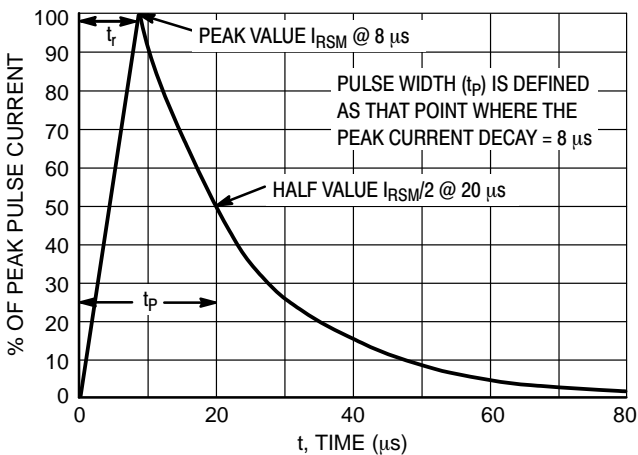

Figure 1. IEC61000-4-5 8/20 μs Pulse Waveform
1. Non-repetitive current pulse per Figure 1 (Pin 5 to Pin 2)
($t_p = 8/20$ μs per Figure 1)